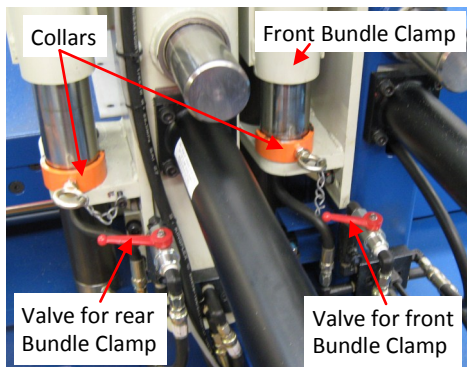

FIG 26.
- 3) **BUNDLE CUTTING.** Bundle cutting is controlled by these valves (shown below in the “off” position) (Fig 26.). With the valves opened the Bundle Clamps will operate at the same time as the vices.